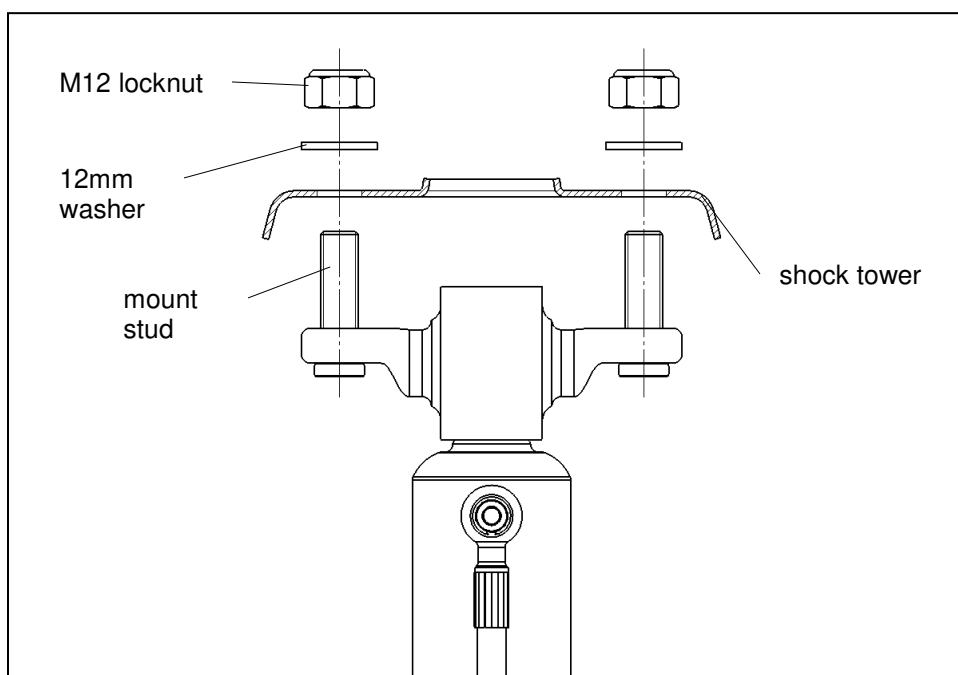

Figure 1
- Using the supplied hardware, install the upper mount. Please refer to Figure 1 for the proper order of installation of the upper mount hardware. Make sure that the hose fitting on the shock is facing outward.